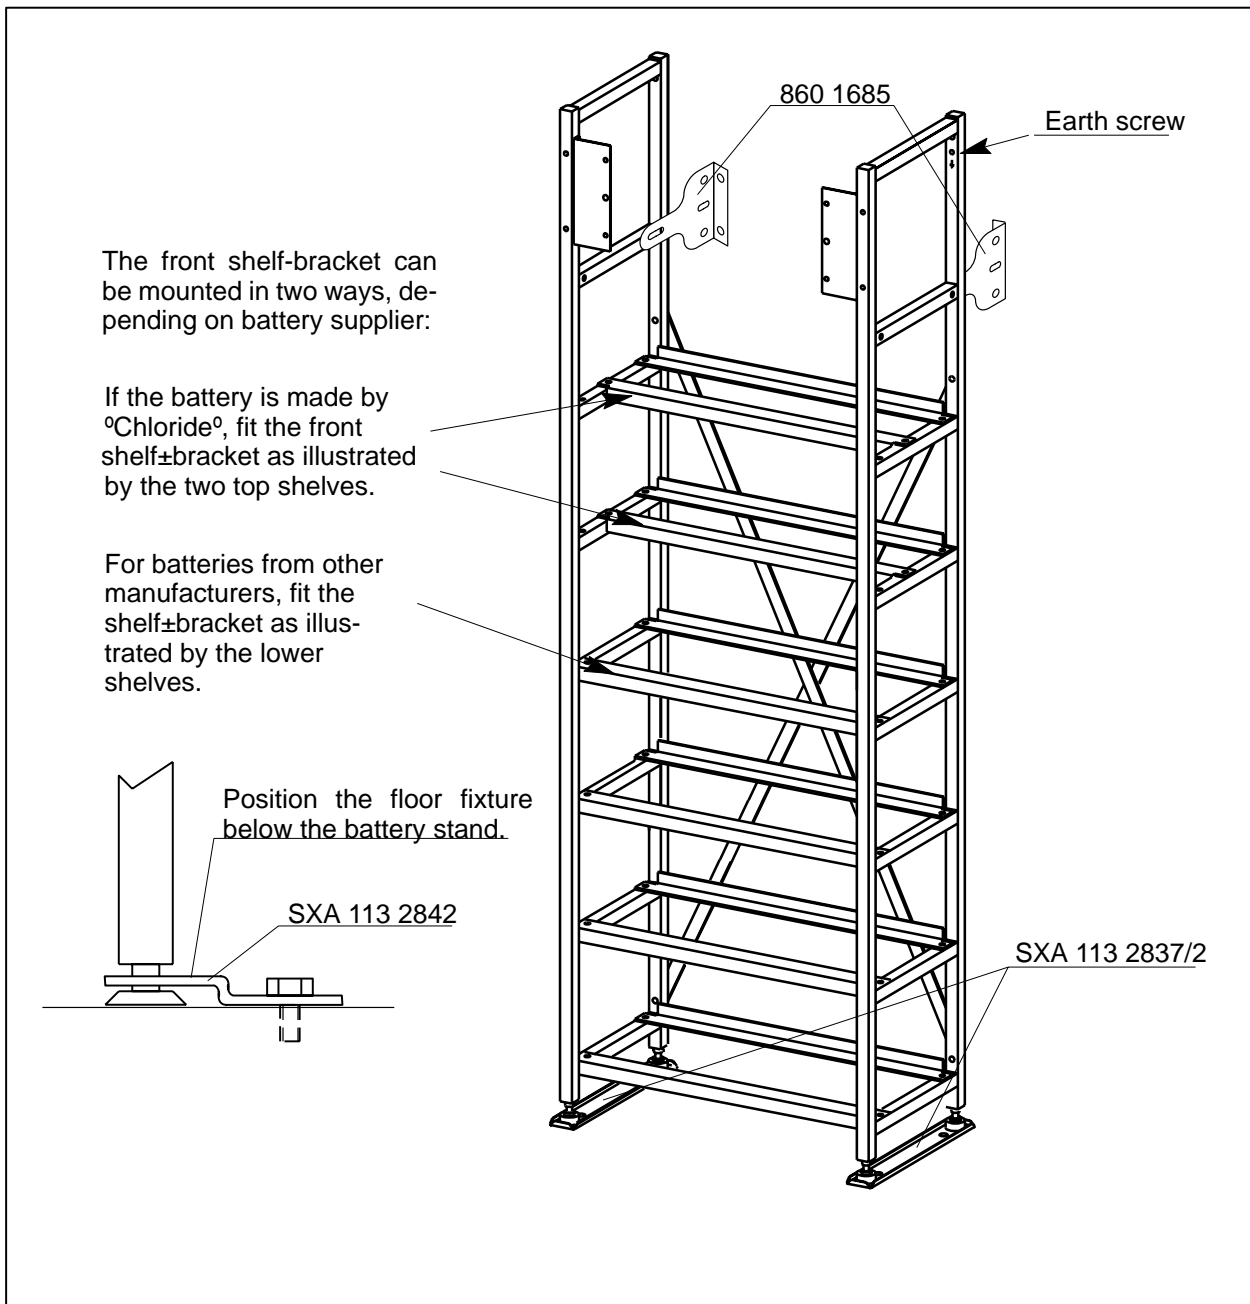

Figure 1 Battery stand
1. Assemble the battery stand according to the instructions of the supplier taking into account what make of battery is to be used. See figure 1.
4. Use 860 1685 to fix to the wall . Refer to figure 1.
- Note** Support relief bars SXA 113 2837/2, packed with the stand, shall be placed under the feet of the battery stand. Refer to figure 1.
5. Connect the earth wire (min 35mm²) from the earth assembly point to the earth screw, on top right-hand side of the battery stand, refer to figure 1.
7. Mount the interconnection module magazine (BFL 107 101/-, refer to figure 1) at the top of the battery stand.